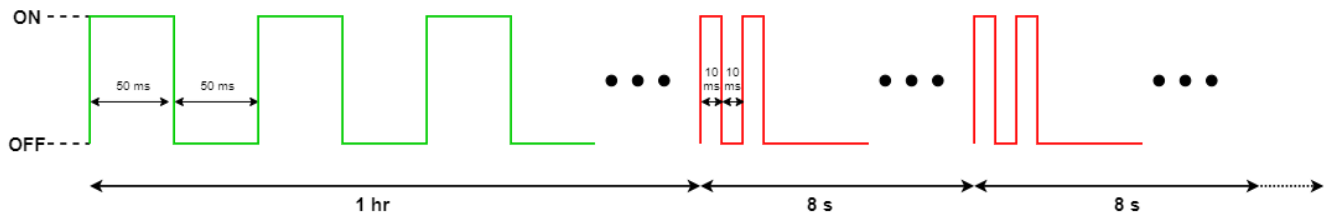

Figure 5-10: The LED Patterns During JOIN Mode
5. Figure 5-10.. For the first hour: